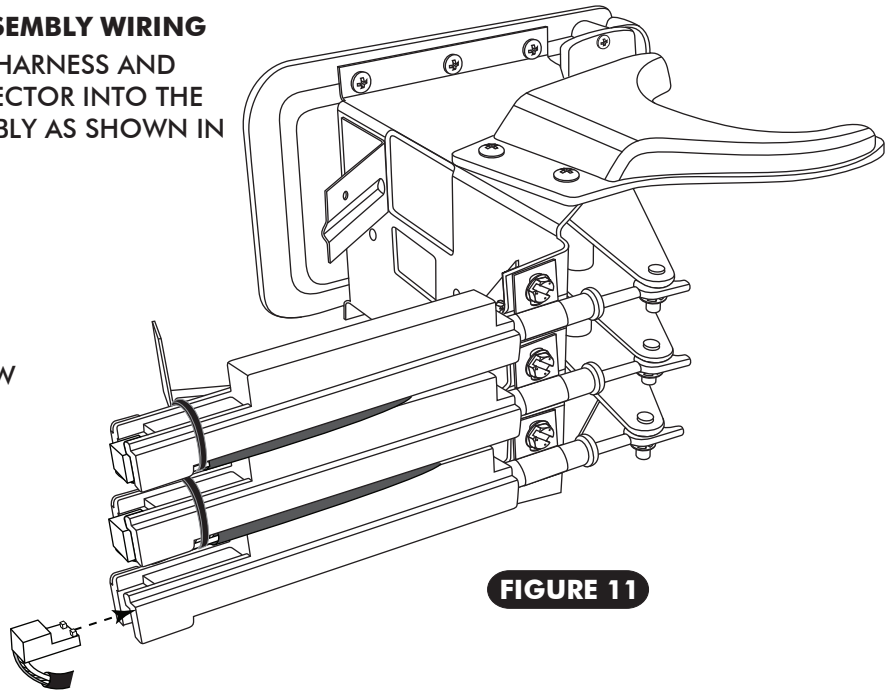

FIGURE 11
- LOCATE THE CONTROL PANEL WIRE HARNESS AND PLUG THE CORRESPONDING CONNECTOR INTO THE CORRECT CABLE CONVERTER ASSEMBLY AS SHOWN IN FIGURE 11, BELOW.